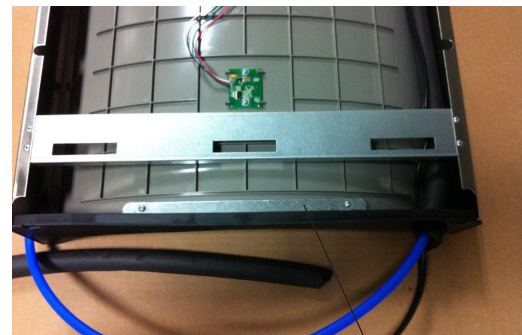

Fig. 11
- 6) **Install gasket on bottom of bottle filler tower** with gasket support bracket & (2) screws (See Fig 11).